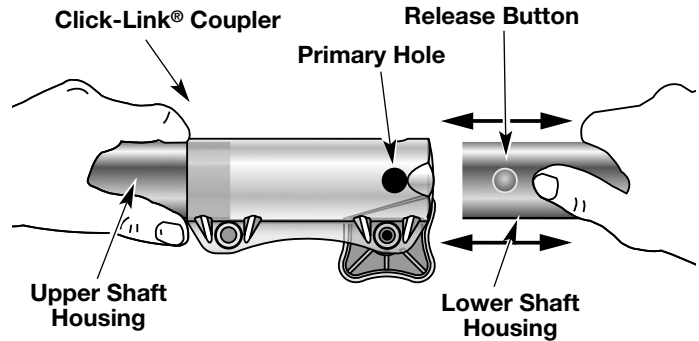

Fig. 11
2. While firmly holding the add-on, push it straight into the Click-Link® coupler (Fig. 11).
NOTE: Aligning the release button with the guide recess will help installation (Fig. 11).